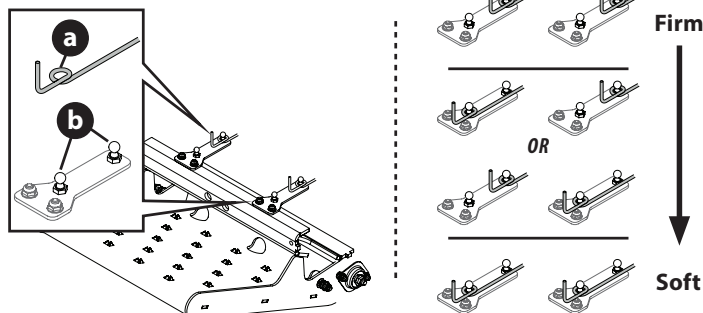

Figure 8
The mower operator's platform suspension firmness is adjustable. Moving the two adjustment rods to one of four combinations (Figure 8 inset) will provide a firmer or softer operator's platform suspension.
NOTE: Refer to Figure 8 inset to see the stop position locations for the desired suspension firmness.
3. Moving one adjustment rod at a time, slightly pull and lift the adjustment rod off of the ball stud (b) (Figure 8).
The mower operator's platform suspension firmness is adjustable. Moving the two adjustment rods to one of four combinations (Figure 8 on page 9) will provide a firmer or softer operator's platform suspension.